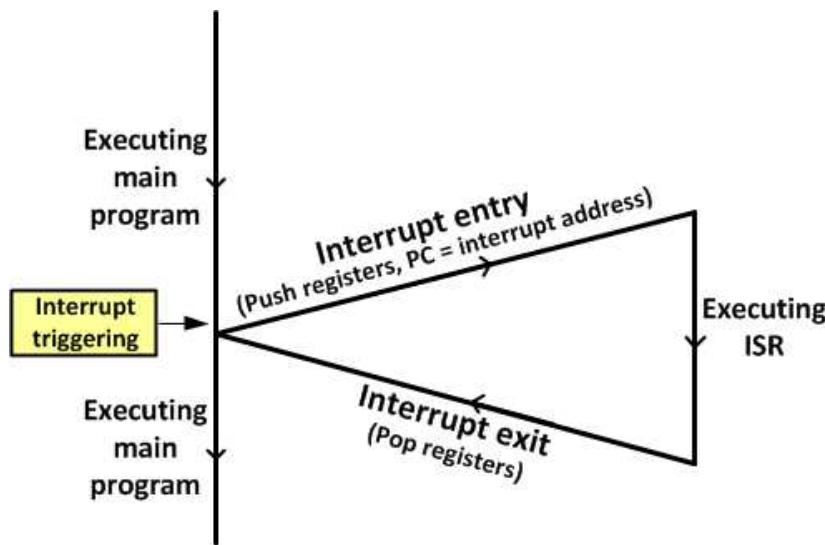

Figure 12-4: Main Program gets Interrupted
12. When one of the return instructions is executed in the interrupt service routine, the CPU recognizes that it is in the Handler Mode from the value of the LR. It then restores the registers saved when entering ISR including the program counter from the stack and makes the CPU run the code where it left off when interrupt occurred. See Figure 12-4.